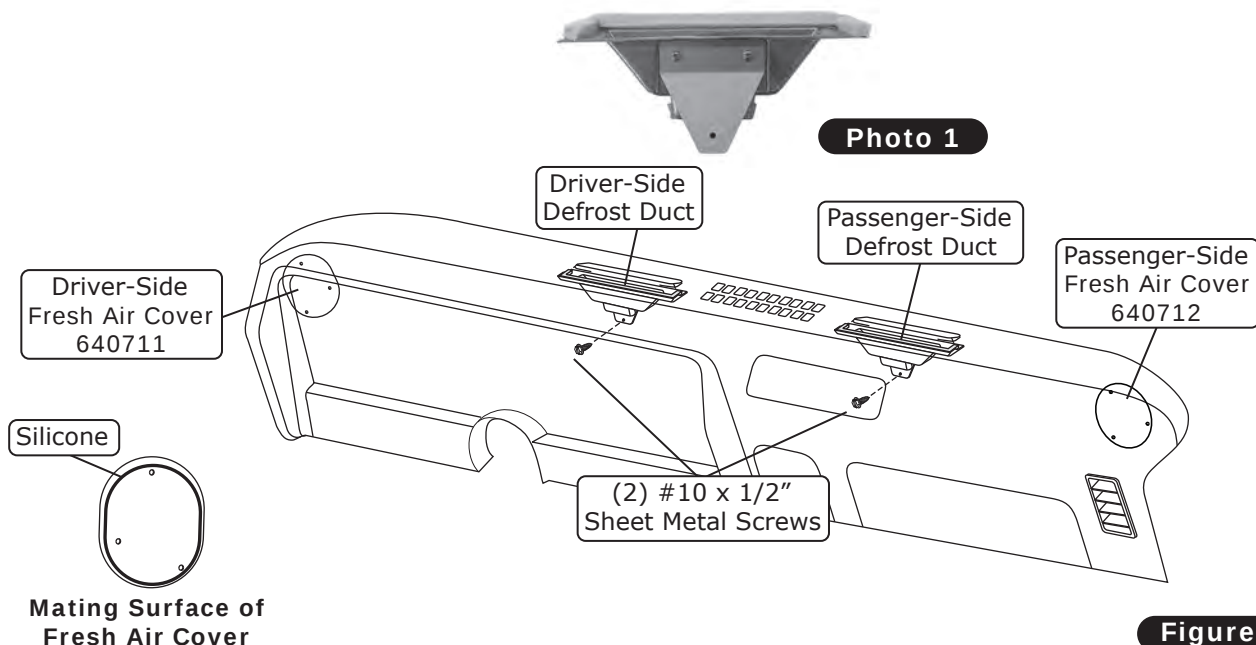

Figure 1
1. Locate the (2) defrost duct assemblies (See Photo 1, below)
2. Install the defrost ducts under the dash (See Figure 1, below). Align each defrost duct with the defrost opening in the dash, and hold it in place. Using the bracket as a template, drill a 7/64" hole for each duct as shown below. Secure each defrost duct using a #10 x 1/2" sheet metal screw (See Figure 1, below).
3. If the vehicle is equipped with astro ventilation, apply a 1/4" bead of silicone to the mating surface, and install the driver- and passenger-side fresh air covers, using the OEM hardware to secure (See Figure 1, below).